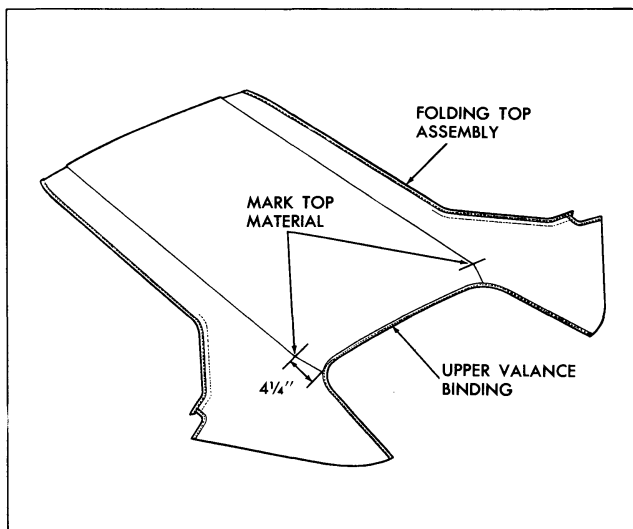

Fig. 21-29 Marking Top Material
22. Using a pencil, mark top material (mark should be approximately 1/2" in length) at deck seam 4-1/4" from edge of top material upper valance binding (Fig. 21-29).